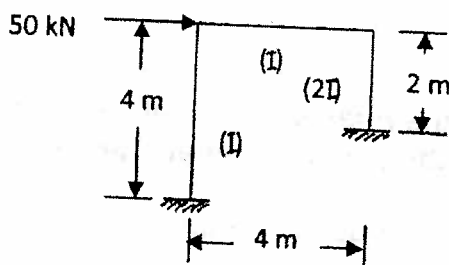

Fig. 3
- 12. Analyse the frame shown in fig. 3, using moment distribution method and draw the bending moment diagram.